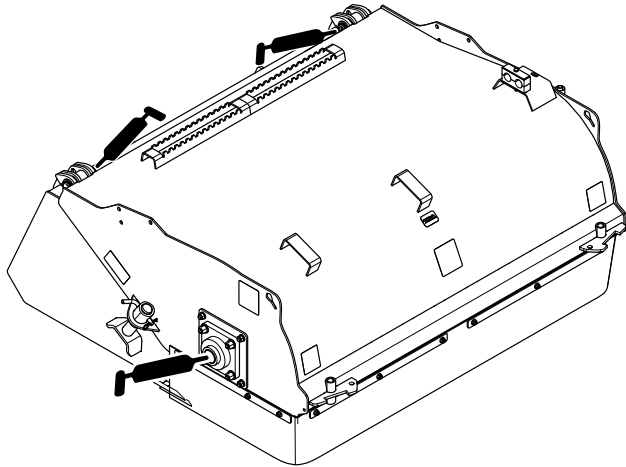

Figure 7
3. Grease the fittings on the 2 hinges and the bearing (Figure 7).